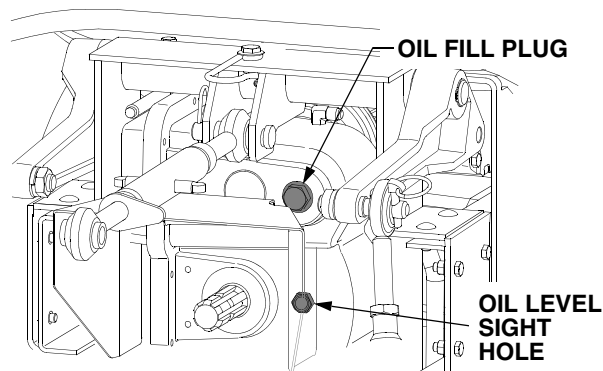
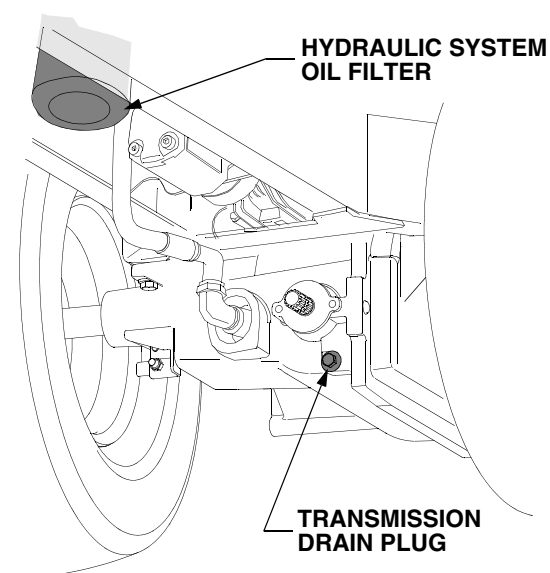

Figure 41
Figure 43
The oil level sight glass is located in the rear of the transmission housing, just to the right of the rear PTO shaft. Refer to Figure 41.
- Locate the oil fill plug on the upper right of the rear of the transmission housing. See Figure 41.
- The hydraulic system oil filter is remotely mounted in the vertical position between the tractor frame rails. Refer to Figure 43.
- Position a suitable container below the hydraulic system filter. Refer to Figure 43.
- Clean area around the transmission oil fill plug to prevent debris from entering the transmission (Refer to Figure 41) and remove the plug.
- Clean the area around the transmission drain plug and the oil fill plug to prevent debris from entering the transmission. Refer to Figure 41 and Figure 43.
- Remove the oil fill plug to help vent the transmission, then remove the drain plug and allow the transmission oil to drain into the container(s). Reinstall the drain plug after draining the oil. Refer to Figure 41 and Figure 43.